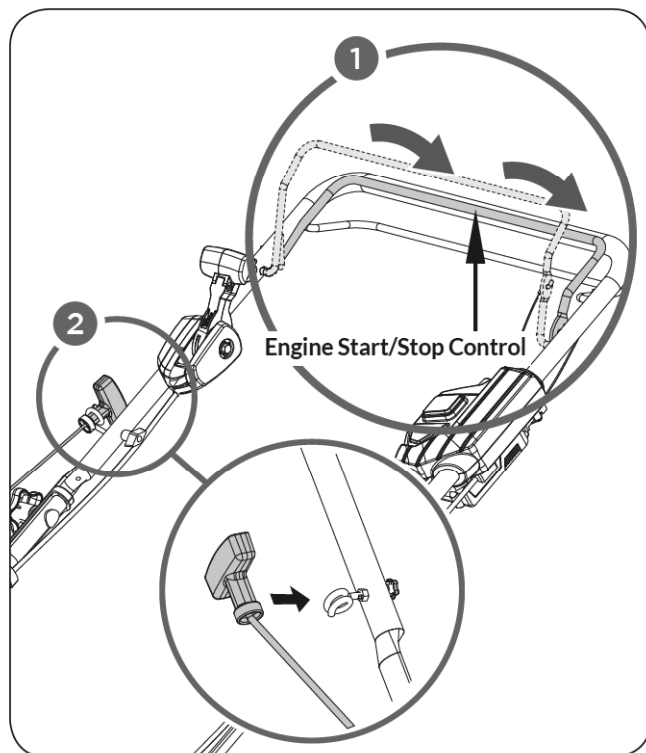

Figure 3
1. Hold the engine start/stop control lever against the upper handle. (See **Figure 3, Illustration 1**)
2. Slowly pull the starter rope handle from the engine and slip the starter rope into the rope guide. (See **Figure 3, Illustration 2**)